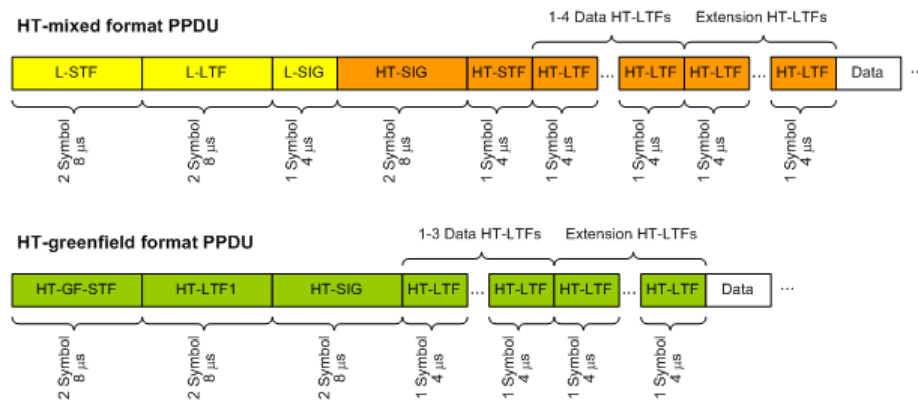

Figure 4-4: Training fields (TF) in the preamble of PPDU in IEEE 802.11n standard
For each space-time stream, at least one training field (the (V)HT-LTF) is included in every PPDU preamble (see Figure 4-4). Each sender antenna transmits these training fields, which are known by the receive antenna. The effective channel can be calculated from the received (and known) (V)HT-LTF symbols of the preamble, without knowledge of the spatial mapping matrix or the physical channel. Thus, the effective channel can always be calculated.
(For IEEE 802.11n see also Figure 4-4)